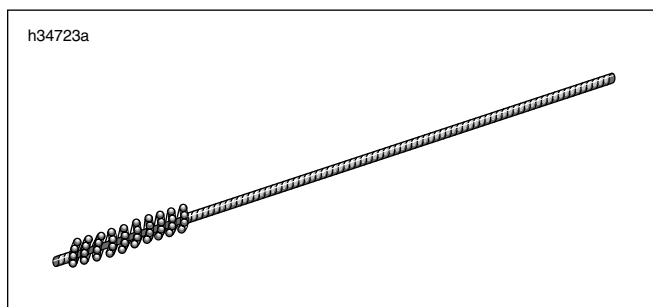

Figure 3-20. Valve Guide Hone (Part No. HD-34723)
8. See Figure 3-20. Obtain the VALVE GUIDE HONE (HD-34723) and REAMER LUBRICANT (HD-39964). Proceed as follows: